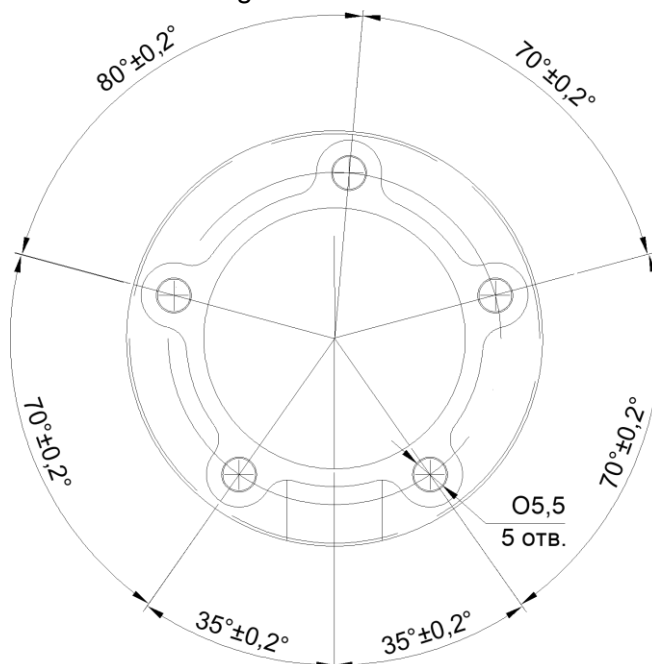

Figure 14 - Arrangement of holes for fasteners
1. Drill a central hole (Fig. 14) for mounting the sensor. To install the sensor bimetallic crown with diameter of 35 mm is necessary. Insert the sensor and mark the holes for attaching the sensor to the tank. Hole pattern for fixing elements is shown in Fig. 14.